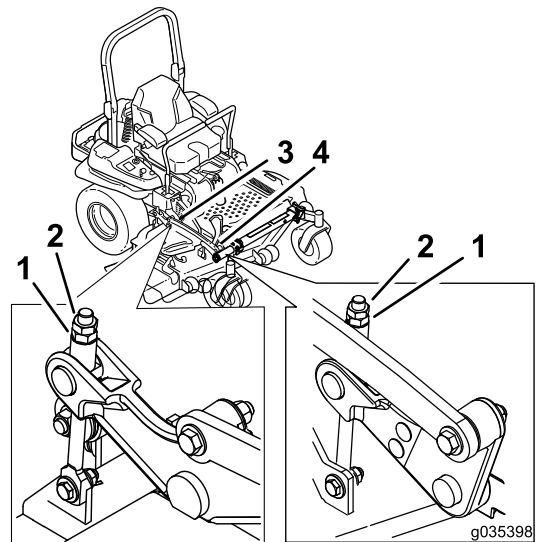

Figure 97
10. Fine-tune the adjustment nut on the front deck lift assembly by turning it (Figure 97).
16. Fine tune the screw adjuster by turning it to get 8.3 mm (3-1/4 inches) height (Figure 97).